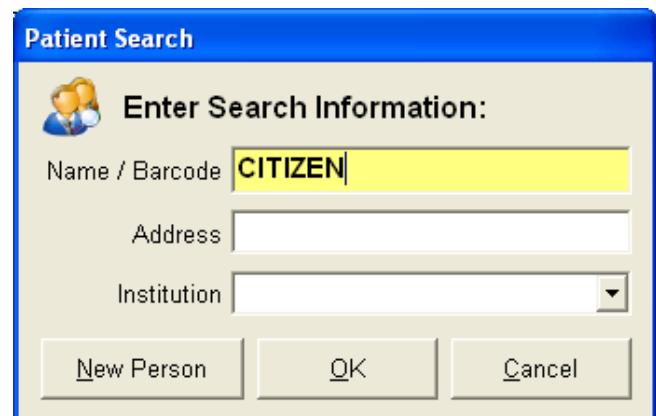

Figure 314
2. A Patient Search screen will appear (figure 314), Key in the name of the customer you want to turn into a debtor/account holder. Click 'OK' to continue.